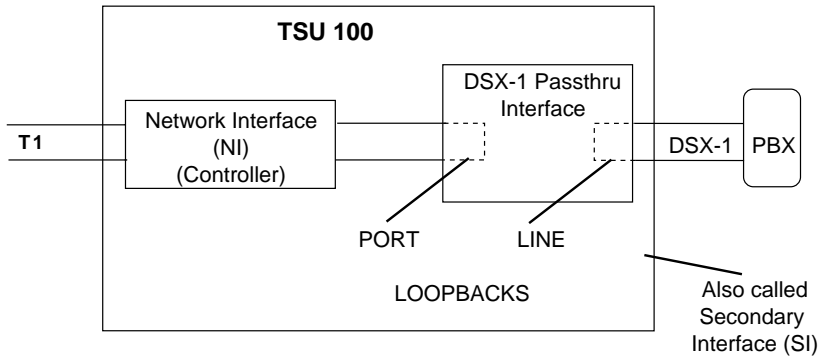

Figure 3-3
The port loopback is internal and loops all data mapped to the Passthru back toward the network interface on the controller. The loopback (when used in conjunction with an external bit error rate tester (BERT) driving the network interface) exercises the entire data path from the network interface (NI) controller, through the Passthru option card, and back out the network interface controller. See Figure 3-3.